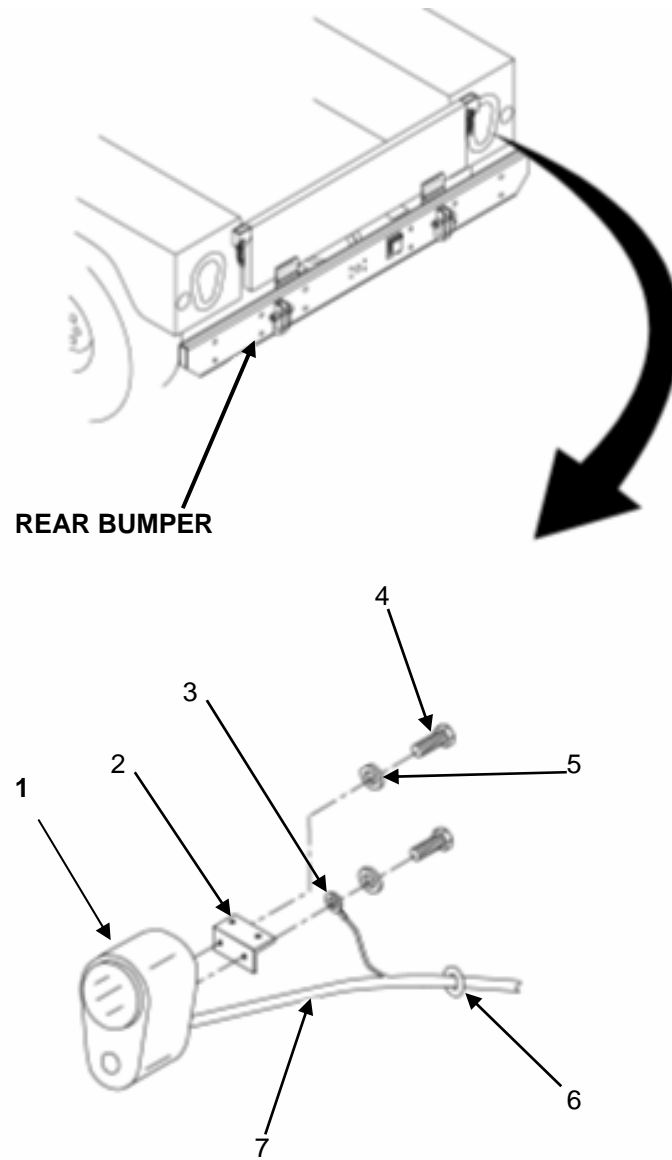

Figure 1. Vehicle Preparation.
7. Secure tail lights (figure 1, item 1) to tail light mounting brackets (figure 1, item 2) and wiring ground lug (figure 1, item 3) using bolts (figure 1, item 4) and washers (figure 1, item 5) removed in step 6.
8. Make a single cut through grommet (figure 1, item 6) and place it around the tail light wiring (figure 1, item 7).